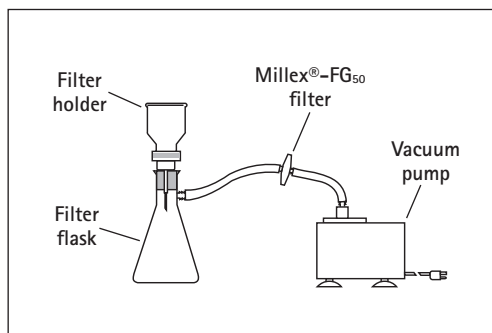
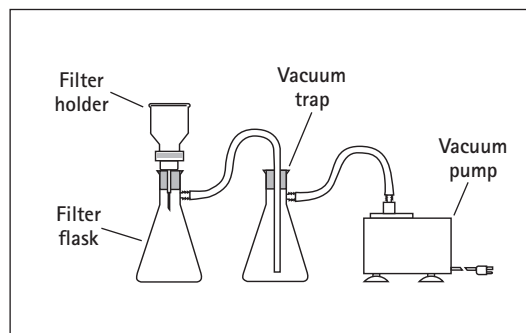

Figure 1. Millex®-FG₅₀ filter pump protection
Figure 2. Vacuum trap pump protection
CAUTION: Always use the supplied Millex®-FG₅₀ filter or a vacuum-flask water trap in conjunction with the pump, as indicated in Figures 1 and 2. Use this pump to pump air or gas only, not liquids or particulates.
2. To prevent liquids or vapors from entering the pump when applying vacuum, install the Millex®-FG₅₀ filter in-line between the filter flask and pump (Figure 1). Alternatively, the pump can be protected by a flask vacuum trap consisting of a 1 liter filtering flask (cat. no. XX1004705), No. 8 stopper (cat. no. XX2004718) and silicone tubing (Figure 2). When using the flask vacuum trap, it is not necessary to use the Millex® filter. For best results, keep the tubing between the pump and equipment as short as possible. Additional tubing is available as cat. no. XX7100004.